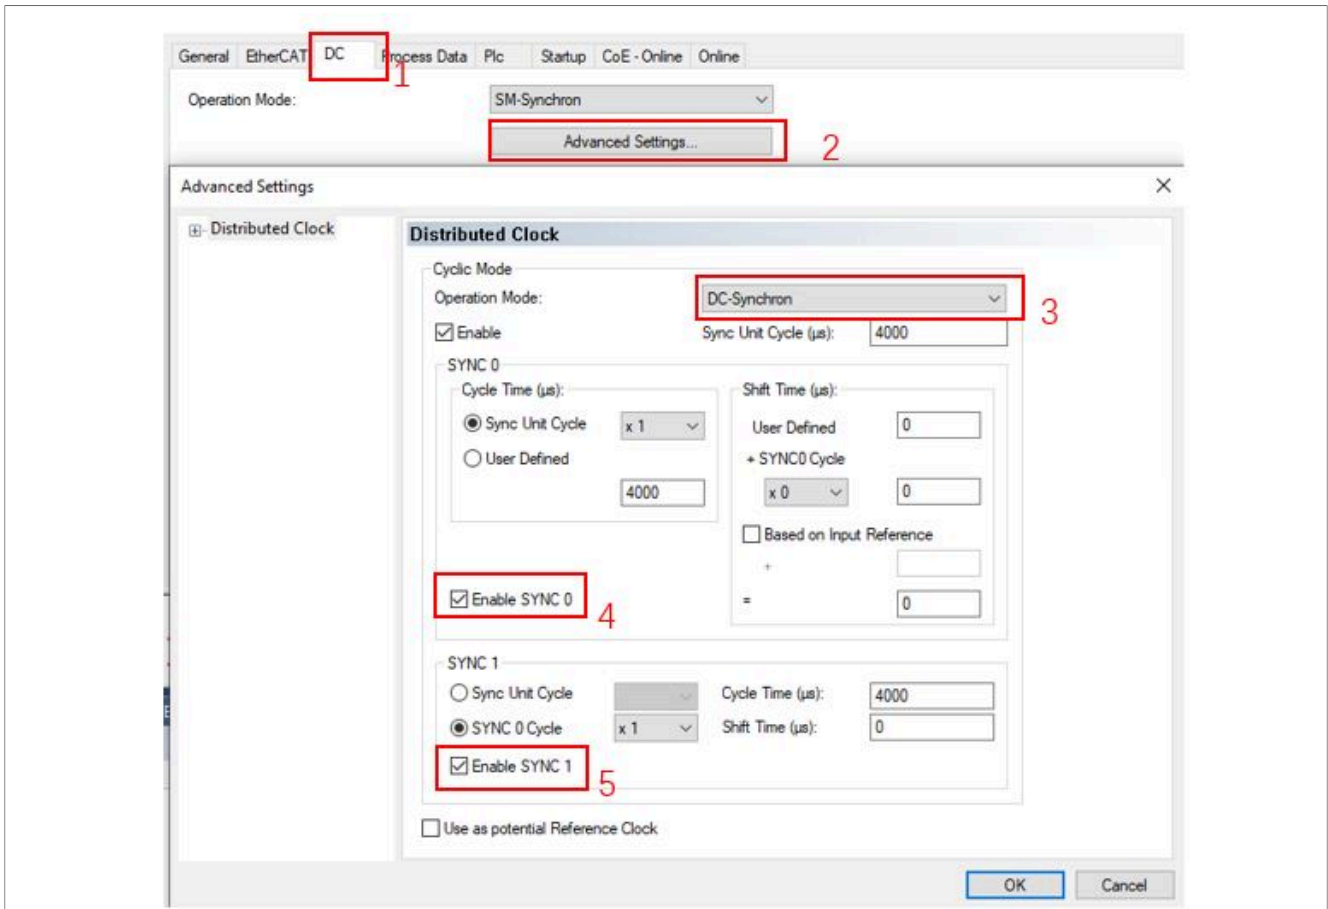

Figure 48. Slave Device Set DC mode in TwinCAT3
3. Configure DC mode in TwinCAT3. The steps to set DC mode in TwinCAT3 are shown in Figure 48.